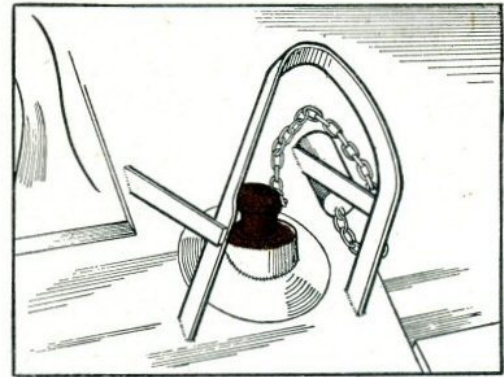

Fig. 31. Sealing headlamp mountings.
- (b) Remove each headlamp, place a bead of A.C. around mounting and plug, Fig. 31. Insert plug and smooth A.C. around joint.